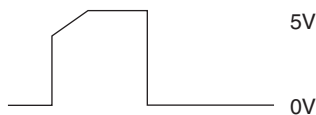

Figure B-3-2
- Yes Is a RST signal in 01C is as specified in Figure B-3-2?